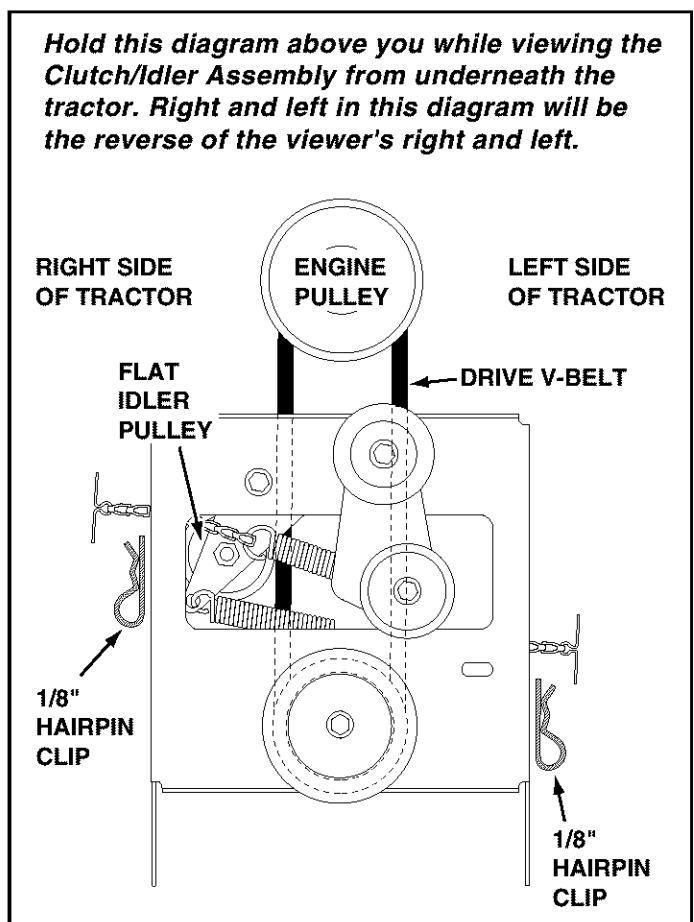

FIGURE 16 VIEWED FROM UNDERNEATH
- Remove the two **outside** 1/8" hairpin clips which are assembled to the L.H. and R.H. tension adjusting chains outside of the clutch idler assembly frame. (The clips will be reinstalled after both belts have been assembled.) **Do not remove** the 3/32" hairpin clips assembled to the chains on the **inside** of the assembly frame. See figure 16.
- Assemble the drive belt onto the tractor's engine pulley and then onto the upper rear pulley on the clutch/idler assembly. Keep the flat idler pulley on the outside of the belt. See figure 16.